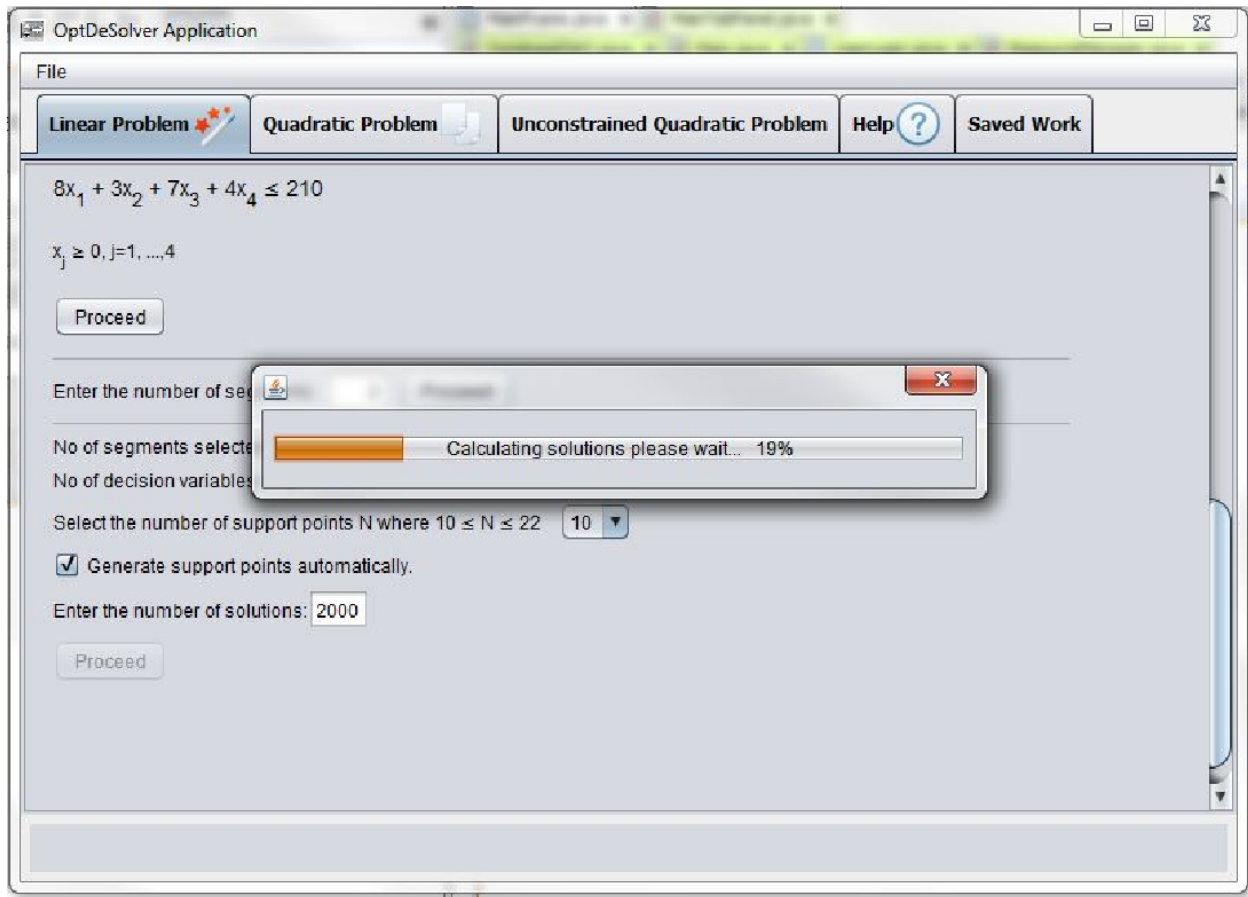

Fig. 7: The OptDe Solver App calculating 12000 solutions.
Step 7: Depending on the number of solutions required and the type of constraints, the application may display a progress bar indicating the calculation progress of all solutions. Wait for the progress bar to complete before proceeding. See fig. 7 below: